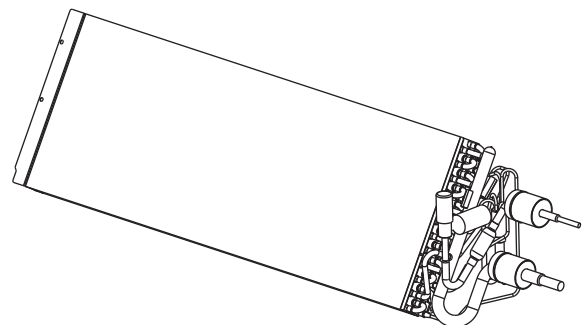

Fig.20
*Removed heat exchanger is as shown Fig. 20